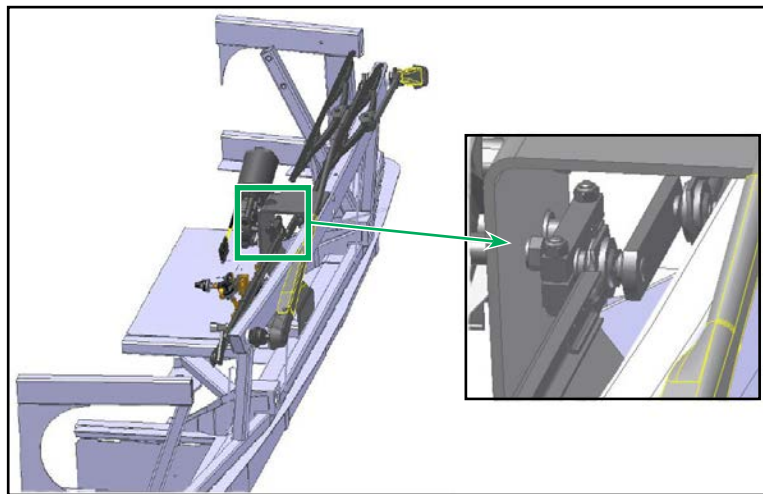

Figure 3 - Location of Wiper Motor Linkage
- 1.5. Locate the wiper motor linkage. See Figure 3.